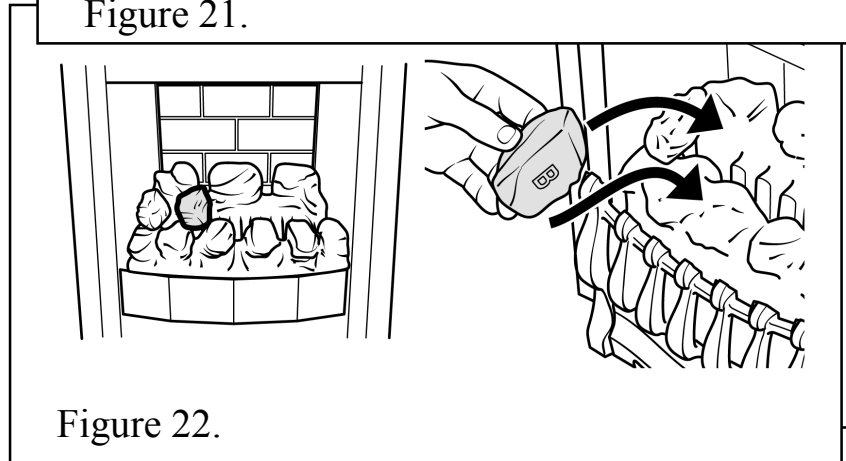

Figure 22.
5. Place a type “B” coal between the front and rear base coals as shown in figure 22. The letter “B” should be upright.